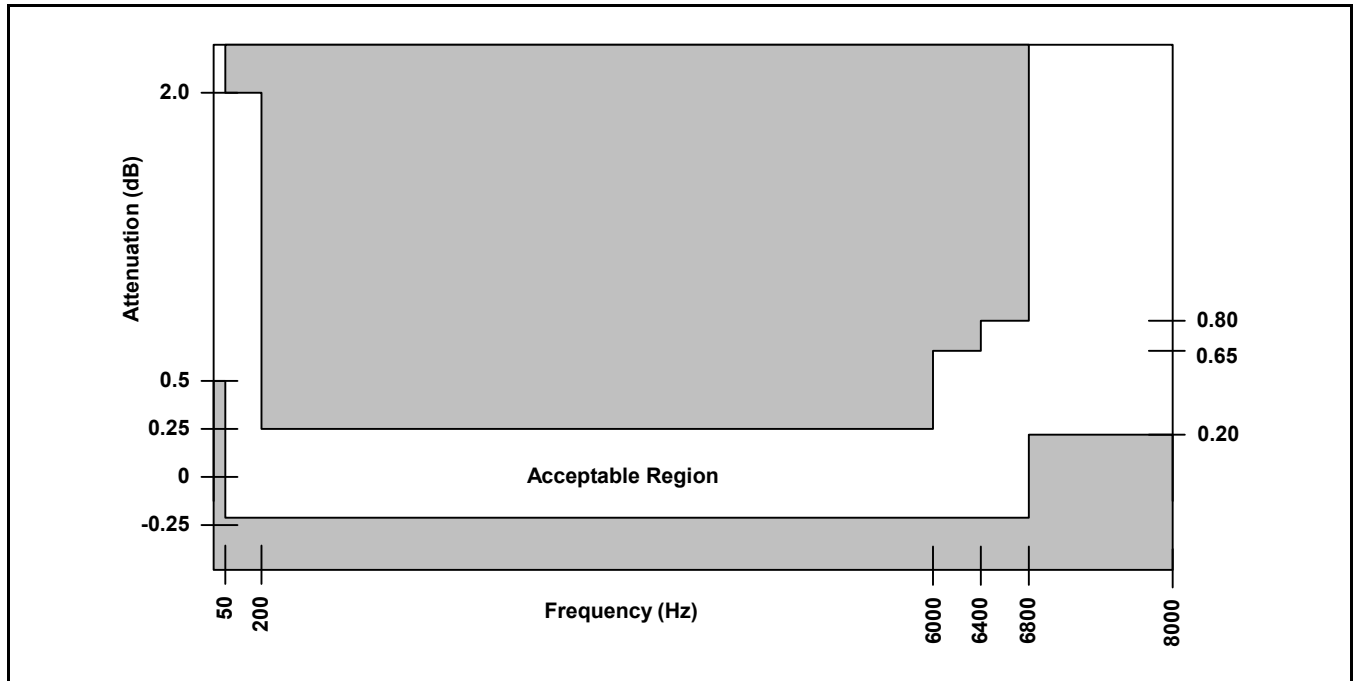
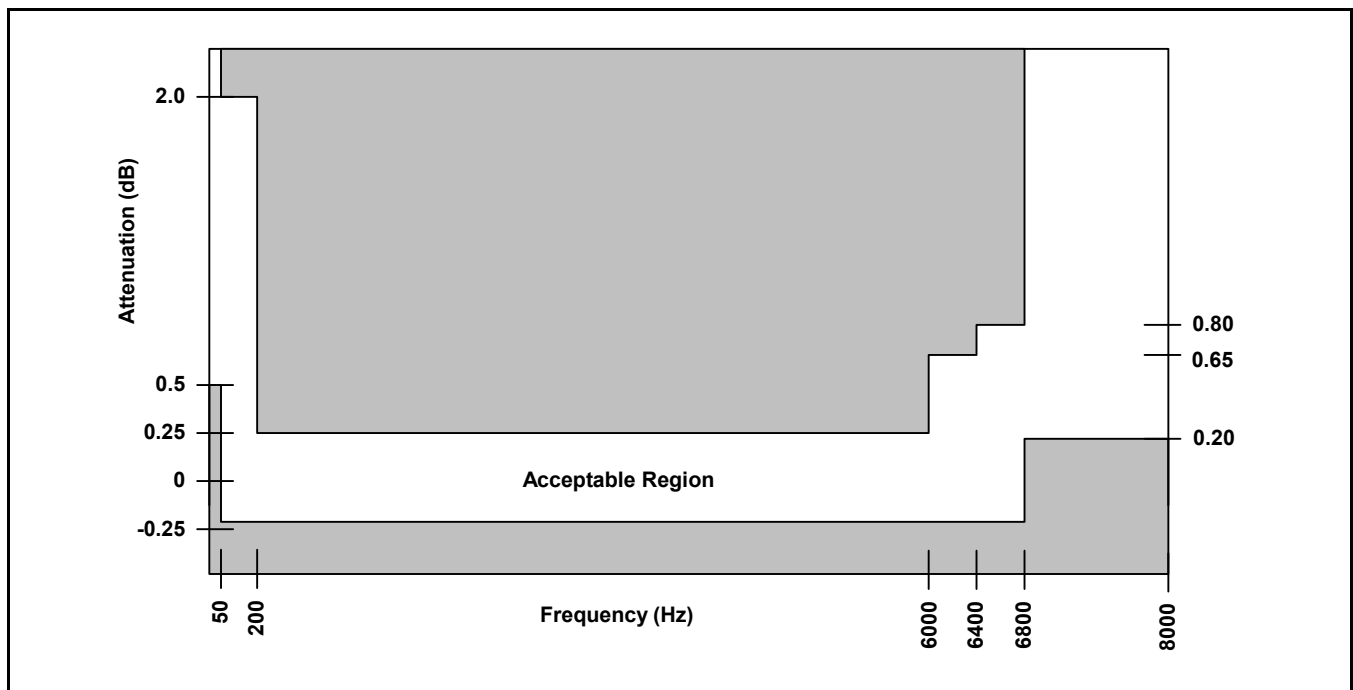

Figure 31 - Transmit Path Attenuation vs. Frequency
Figure 32 - Receive Path Attenuation vs. Frequency
3. See Figure 31 and Figure 32.
The signal attenuation in either path is nominally independent of the frequency. The deviations from nominal attenuation will stay within the limits shown in Figure 31 and Figure 32. The reference frequency is 1014 Hz and the signal level is -10 dBm0.